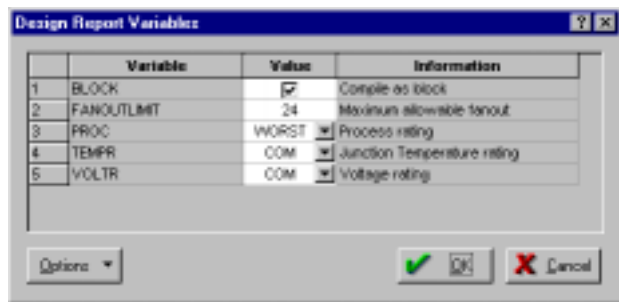

Figure 5-6. Design Report Variables Dialog Box with BLOCK Selected
This displays the Design Report Variables dialog box, as shown in Figure 5-6.
2. **Select the Block (Block Compile) check box, as shown in Figure 5-6.** Click OK. A complete report of the netlist is displayed, including sequential and total logic utilization, operating conditions, inpad to register, register to register, register to outpad, inpad to outpad, and global signal propagation delays and logic levels. The software automatically recognizes the global signals from the netlist